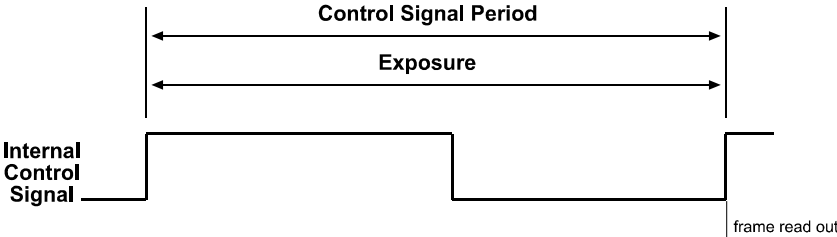

Figure 3-7: Free-run Edge-controlled Mode
- In **free-run edge-controlled mode**, the camera generates a continuous internal control signal based on the "Frame Period" parameter. The pixels are exposed and charge is accumulated over the full period of the internal control signal (rising edge to rising edge). The falling edge of the control signal is irrelevant. The frame is read out and transferred on the rising edge of the internal control signal (see Figure 3-7).